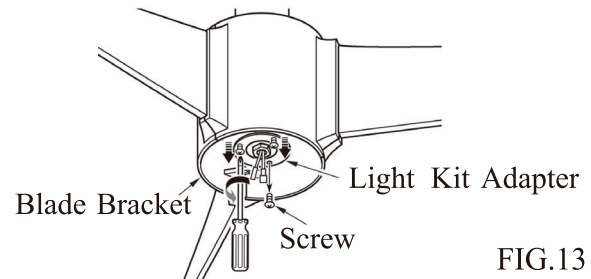

FIG.13
1. Remove 1 of 3 screws on light kit adapter, and loosen the other 2 screws. (See fig.13)